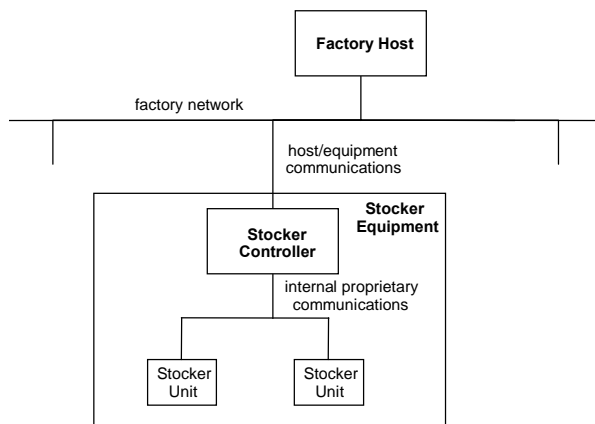

Figure 1
5.2.20 *stocker equipment* — an individual stocker viewed as a single piece of equipment, with distributed components and distributed control, as illustrated in Figure 1. The stocker controller communicates with the host using HSMS and GEM and represents the system as an equipment. The factory may require more than one type of stocker.